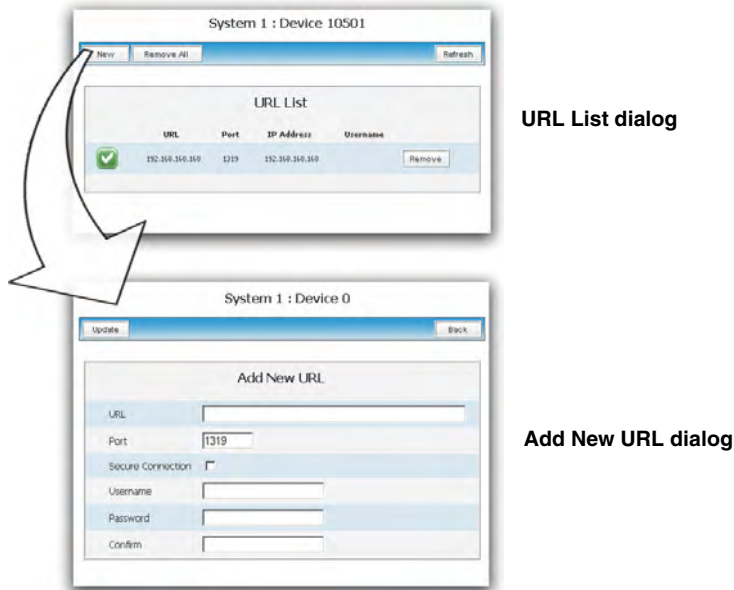

FIG. 68 URL List dialog
3. Click the **URL List** button to open the URL List dialog (FIG. 68). This dialog allows the user to view, add, and remove URLs from the specified devices URL list.